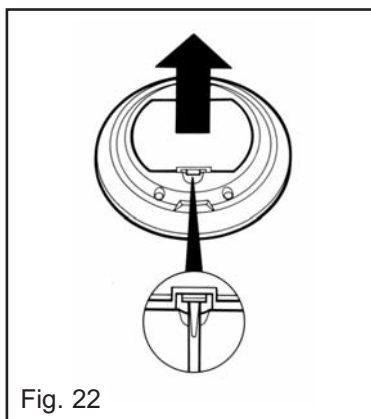

Fig. 22
- Remove the battery cover plate from the rear of the Handset (Fig. 22)